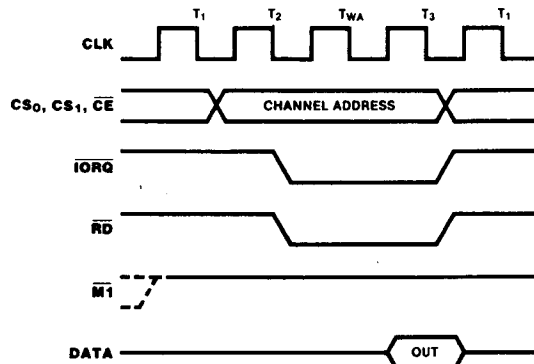

Figure 9. Read Cycle Timing
**Read Cycle Timing.** Figure 9 shows read cycle timing. This cycle reads the contents of a down-counter without disturbing the count. During clock cycle  $T_2$ , the Z80 CPU initiates a read cycle by driving the following inputs Low:  $\overline{RD}$ ,  $\overline{IORQ}$ , and  $\overline{CE}$ . A 2-bit binary code at inputs  $CS_1$  and  $CS_0$  selects the channel to be read.  $\overline{M1}$  must be High to distinguish this cycle from an interrupt acknowledge.